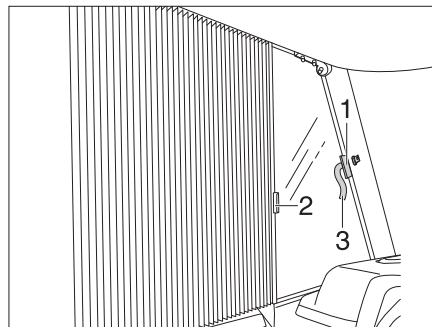

Fig. 83 Roman shade for driver's window and front passenger's window
- Open the Velcro of the securing loops (Fig. 83,3) on both sides.
- Grasp the handles (Fig. 83,1 and 2) of the Roman shades one after the other and draw carefully towards each other until the magnetic catch keeps the Roman shade closed.
- Carefully push the Roman shades back at the handles (Fig. 83,1 and 2).
- Secure the Roman shade with the Velcro of the securing loop (Fig. 83,3).